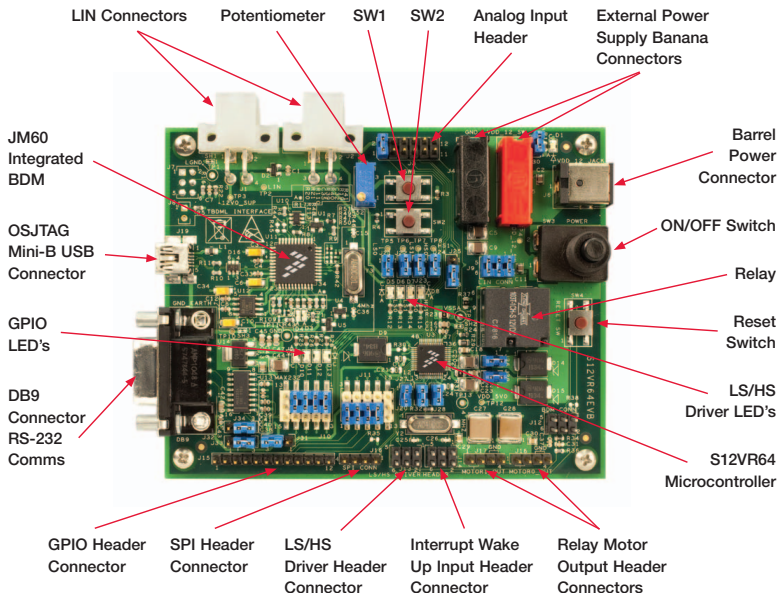

Figure 1: Front Side of S12VR64EVB
5. Verify the option jumpers are set in default positions. Refer to Figure 1.